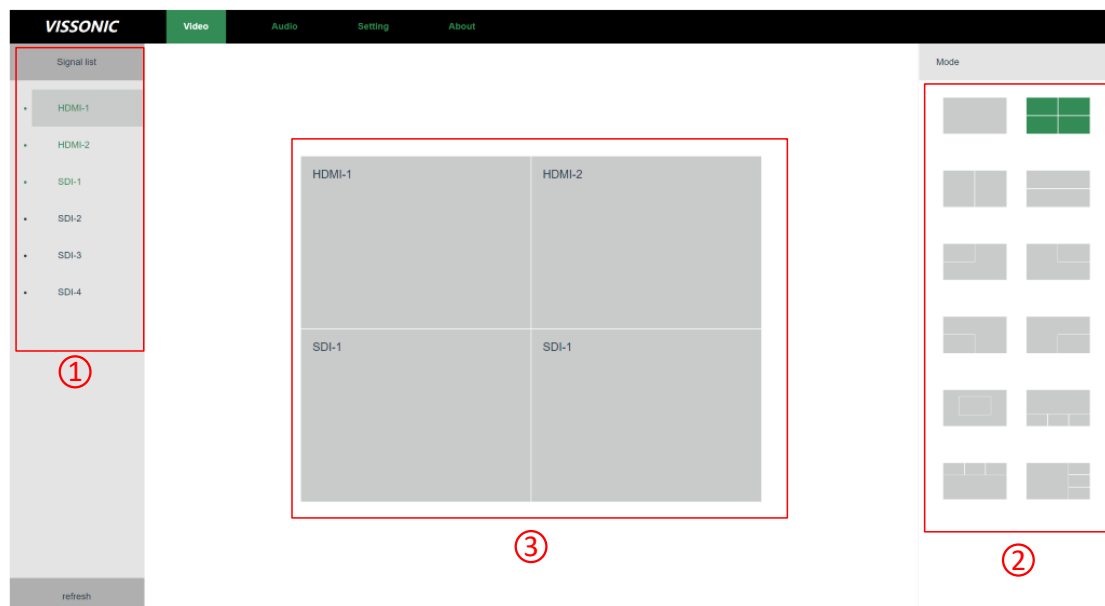

Figure 6.2 Screen split
3. Log in to the web page, enter the IP address 192.168.1.189, and if you can log in to the interface as shown in Figure 6.2, it means that the connection is successful. Click Video and Audio to control the screen segmentation and audio switching of the camera tracking controller.